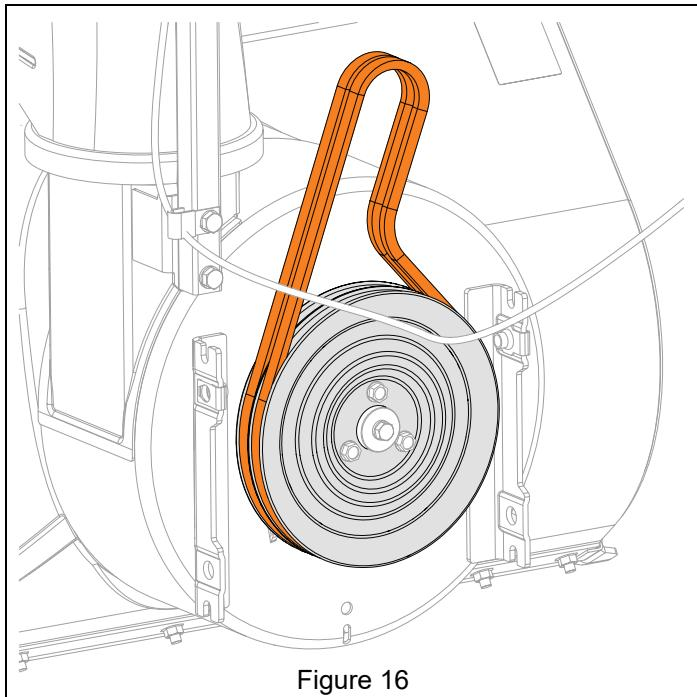

Figure 16
4. Remove attachment drive belts from attachment drive pulley. See Figure 16.